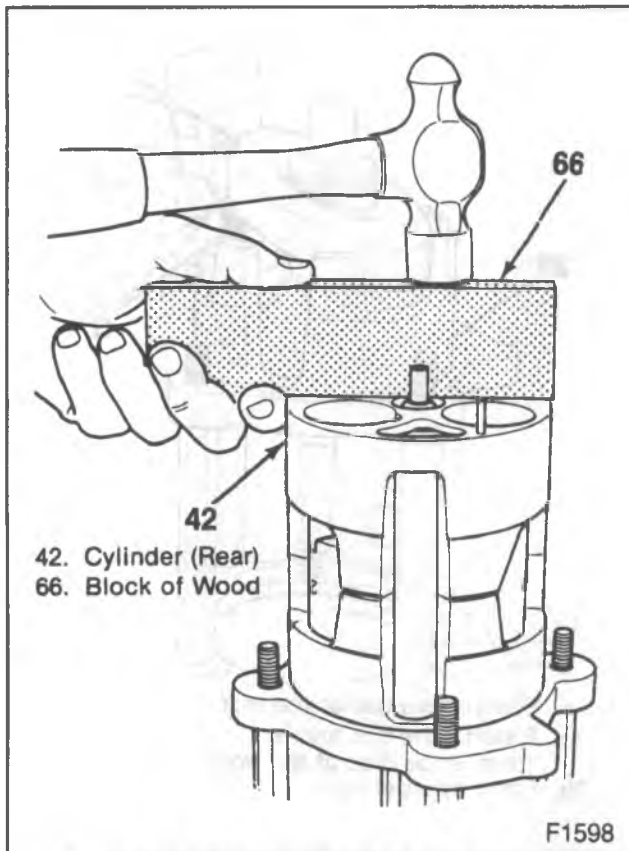

Figure 31—Assembling the Cylinder Halves
13. Install the rear cylinder half (42) on the pistons, aligning the cylinder with the discharge cross-over tube hole in the front cylinder.
- Tap the piston into place using a plastic mallet or piece of clean wood and a hammer (figure 31).